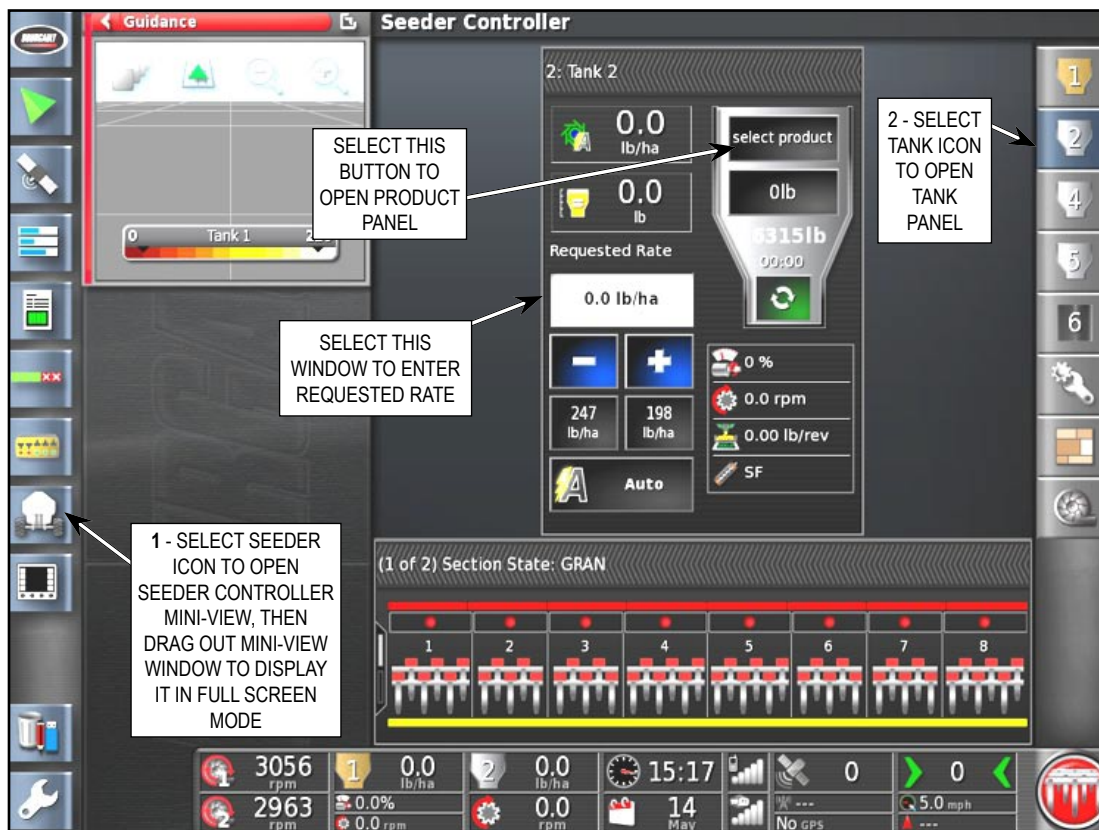

Figure 8.2 - Tank Panel Expanded View
1. In the Seeder Controller window (full screen mode), show the Tank that you would like to select the product for. Expand the panel for that tank. Refer to *Figure 8.2*.